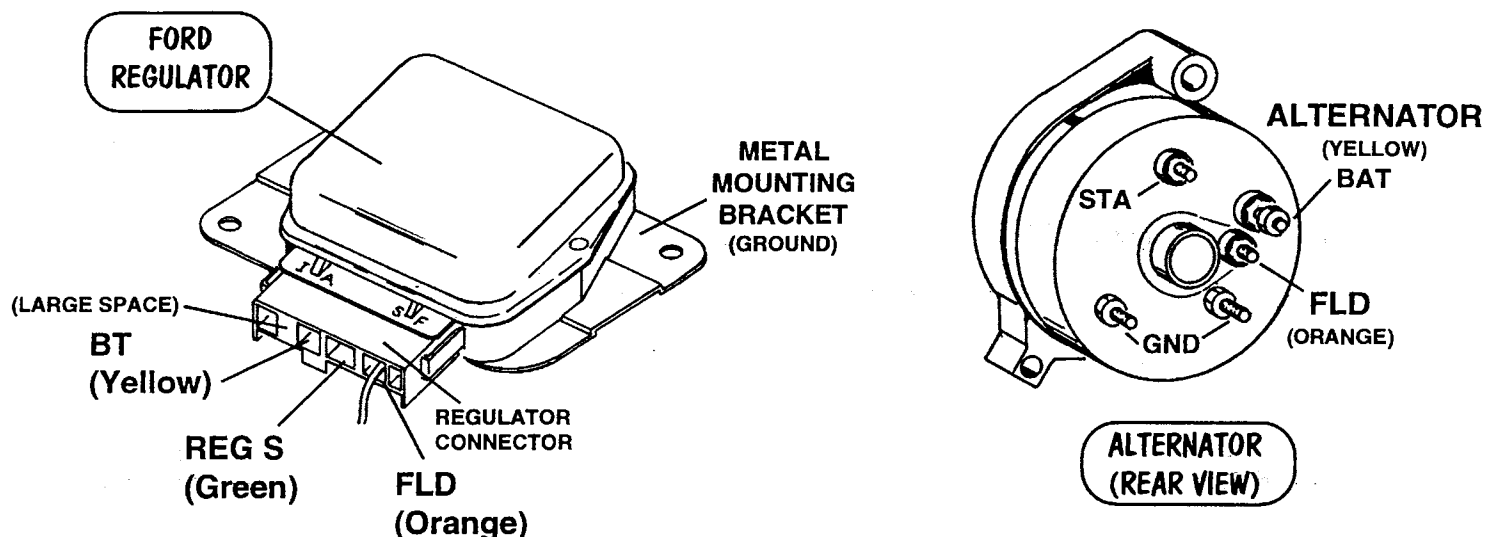

**Figure 1
6. Locate the three gauge lamp sockets with the black (GND) and dark green (GAUGE LAMPS) wires. Snap these into the three openings shown as GL in Figure 1. Note the different wire lengths.
Remove the stock Bronco turn signal connector coming from the middle of the steering column. Cut the wire as close to the old connector as possible. Install our new male terminals to your old wires by stripping off approximately 1/8" of insulation then crimping the bare wire to the new terminal. Solder each terminal (Figure 2). Crimp the terminal over the wire insulation after soldering. Insert each terminal into the flat connector turn signal adaptor as shown in Figure 1.